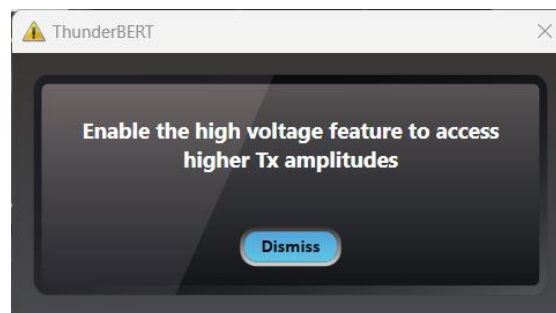

Figure 18: High Amplitude Warning
- Specify the TX amplitude.** In optimal mode, the slider shows the calibrated differential eye amplitude range, each displayed value is the combination of the optimal FFE taps. Pre-Emphasis, Main, and Post-Emphasis taps are calculated during calibration. The ML4079EN is characterized by its high amplitude swing: at low rates the amplitude swing can go up to 1.8Vpp as for the high rates it is up to 1.2Vpp. Should the amplitude exceed the 1V threshold, a warning message will be displayed, advising you to enable the High Voltage feature (Figure 18). This warning message is specifically designed to appear to help prevent potential damage to the receiver side (RX), ensuring the integrity and longevity of the system components.